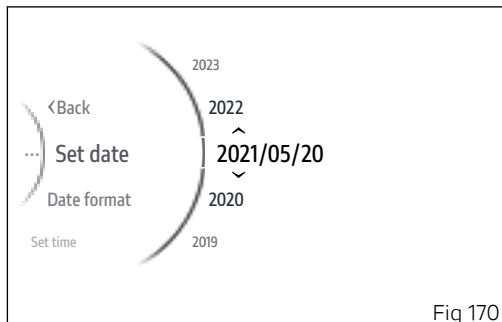

Fig 170
- From the Interactive Menu, use buttons (1) and (2) to select the item "Setting menu" and press ENTER (3).
- Select the "Date and time" item and press ENTER (3).
- Select the "Set date" item and press ENTER (3).
The first parameter of the date (the year in the example) becomes selectable and is displayed with two arrows placed above and below it; the available values for the displayed parameter are also displayed above and below it (Fig 170). Use buttons (1) and (2) to scroll and select the desired value. Press ENTER (3) to confirm and move on to the following parameter.